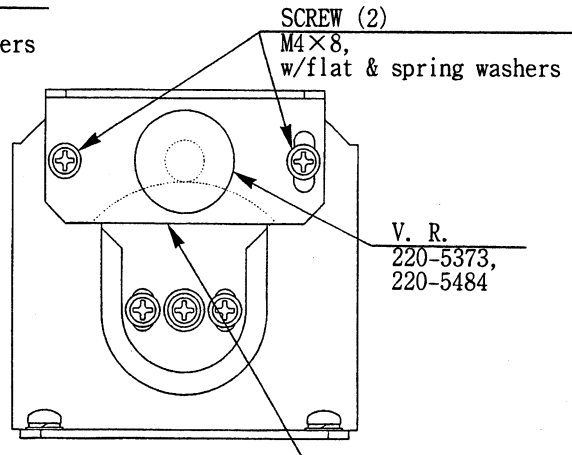

Fig. 8.2
- ① Turn the power SW OFF.
- ② Take out the 5 Truss screws and remove Rubber Upper A (photo 8.2a).
- ③ Take out the 3 Truss screws and remove Rubber Lower (photos 8.2b & 8.2c).
- ④ Take out the 2 screws and remove blind box A (photo 8.2d).
- ⑤ Loosen the 2 screws, which secure the Volume Bracket, to move the Volume Bracket (Fig. 8.2).